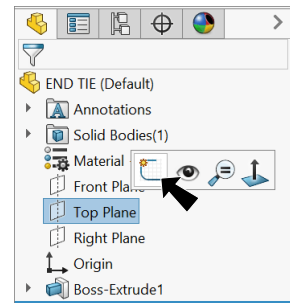

Fig. 21
Step 1. Click **Top Plane**  in the Feature Manager and click **Sketch**  on the context toolbar, **Fig. 21**.